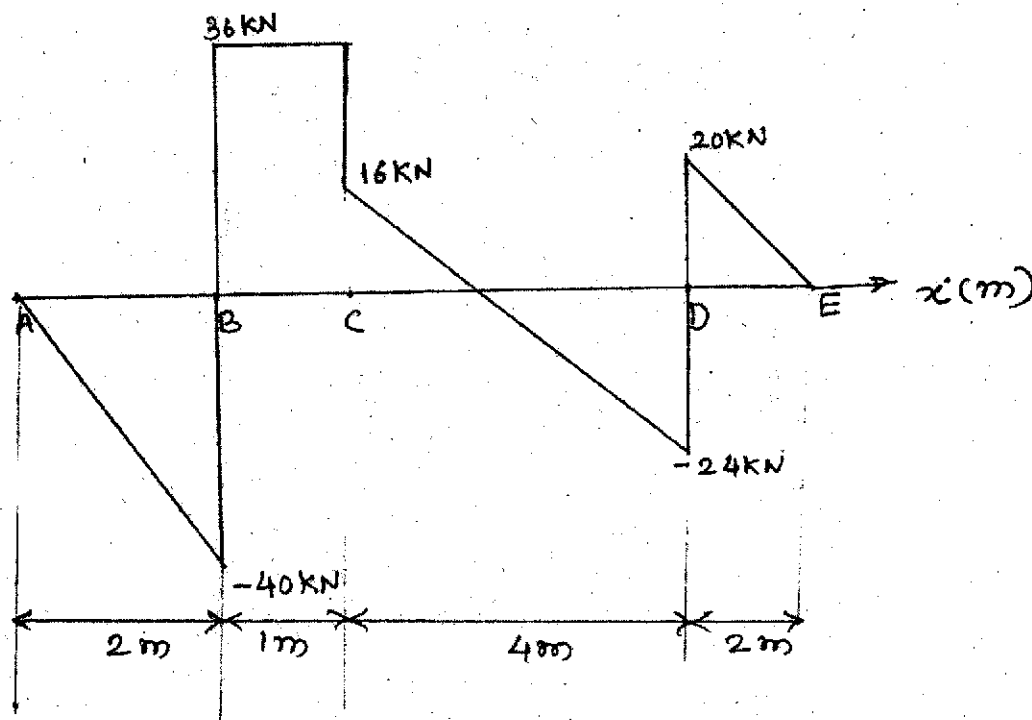

Fig. 7
- (b) Shear force diagram for beam is as shown in Fig. 7. Identify location and nature of support. Draw loading and bending moment diagram indicating all important points. Also indicate point of contraflexure if any. [10]